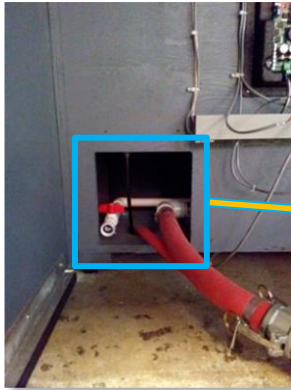
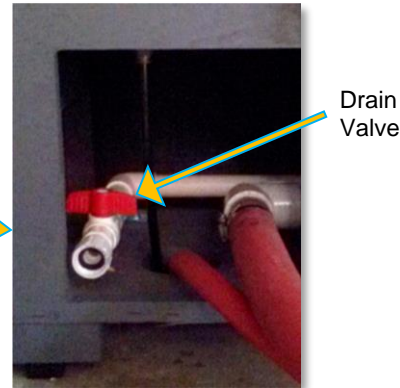

Figure 1.8
Figure 1.9
4.3.1 The secondary drain uses gravity. The location may vary based on the model. The below, *Figure 1.9* is a close up. *Figure 1.8* is from a different model, but gives an idea where it is located.